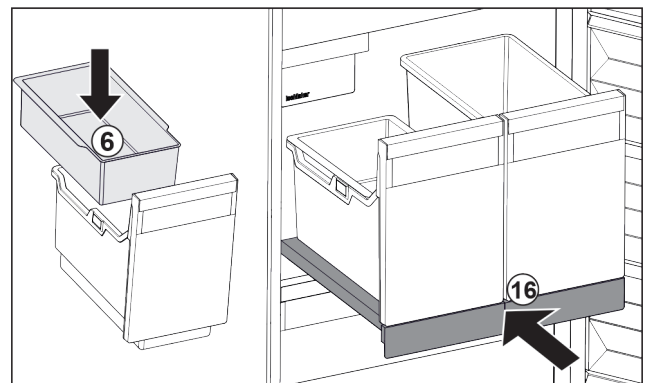

Fig. 145
- ▶ Insert hang-on tray *Fig. 145 (6)* for ice cubes.
- ▶ Slide in the pull-out board with (IceTower) container. *Fig. 145 (16)*